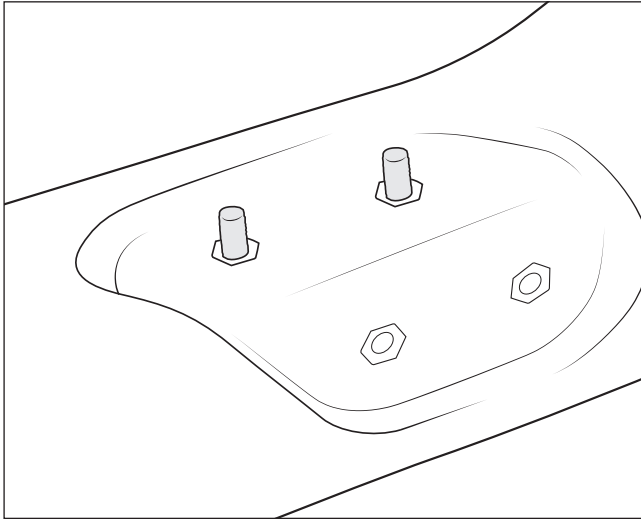
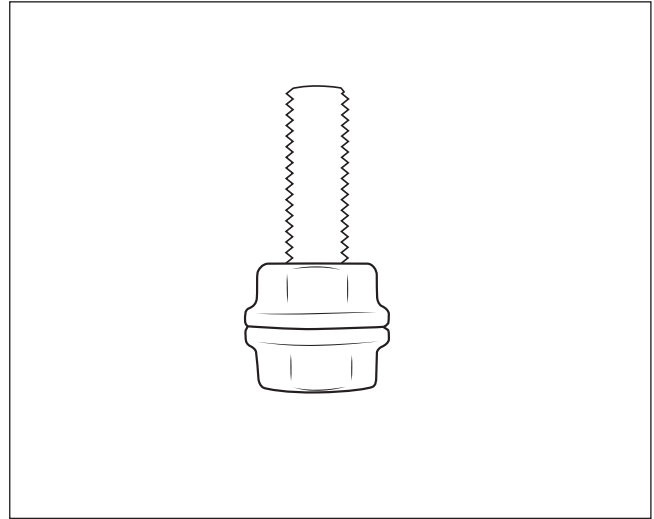

Figure 14
Figure 15
1. Install provided studs into threaded inserts in side pocket of snorkel body (fig. 14). Due to coating on threads, it may be necessary to lock the 2 nuts together using 2 wrenches (fig. 15), then use a wrench on the outer nut in order to fully seat the studs. Once seated snugly into the snorkel insert, loosen the nuts from one another and remove them from the stud, then repeat procedure on the second stud, and set the nuts aside for use later.